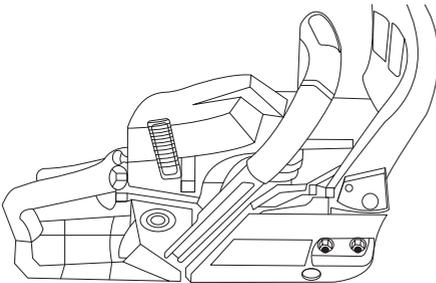

Fig.41
- Debris must be removed from the cylinder fins regularly to reduce the risk of damage to the unit and potential personal injury from fire. Use compressed air at 40 PSI or lower to blow debris from the cylinder fins (Fig. 41).